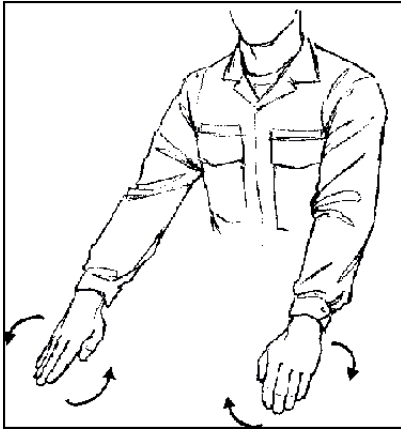
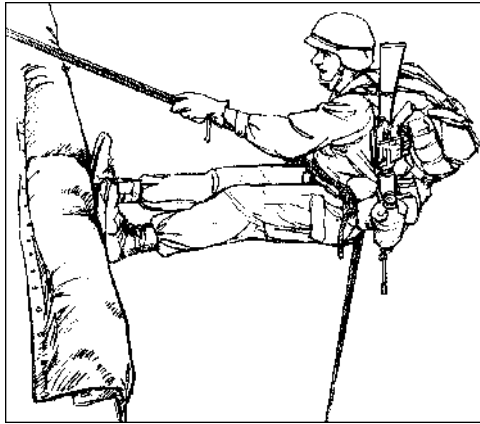

Figure 1-6. Example of arm and hand signal POSITION.
Figure 1-7. L-shape position.
(2) *Position*—The lane NCO extends both arms to the front, elbows locked, forearms pointed downward, and fingers extended. He makes a circular motion with both forearms rotating in opposite directions (Figure 1-6). With the brake hand in the small of the back, the rappeller rotates 180 degrees out onto the wall or skid mock up and assumes an L-shaped position. The feet should be shoulder width apart, balls of feet on the wall or skid, knees locked, and body bent at the waist (Figure 1-7).